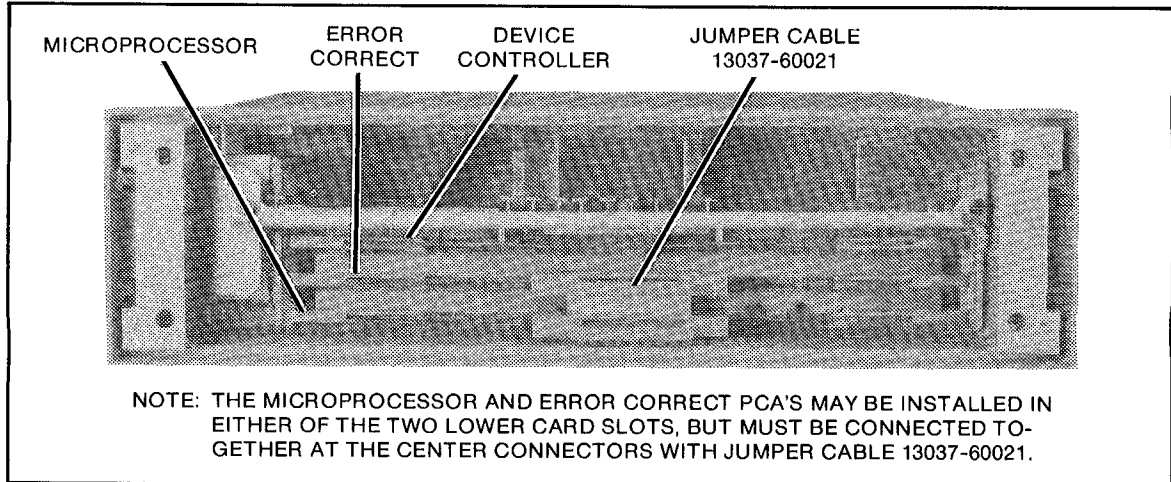

Figure 2-3. Controller PCA Configuration
- C. PCA Installation -- See figure 2-3.
See figure 2-3 and figures 3-5 through 3-13 for PCA locations. For PCA functions refer to paragraph 4-2.